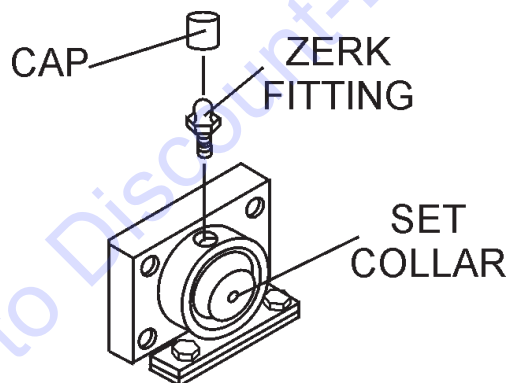

Figure 18. Zerk Fittings (Bearings)
- Check the zerk grease fittings at each end of the mixing drum (Figure 18). These grease fittings lubricate the dumping mechanism. If the dumping handle is stiff or hard to move lubricate these fittings.